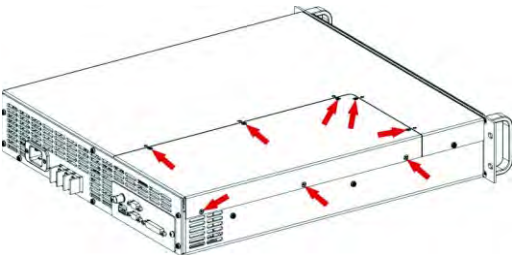

Figure 3.5 – 2105/7212/7224 Amplifier Access Panel Screw Locations
1. On each Follower amplifier, locate the Access Panel as shown in **Figure 3.5**. Make sure that all 8 screws are accessible. Remove the unit from its rack, if necessary.
2. Using a #2 Phillips screwdriver, remove the eight (8) screws located on the top and side of the amplifier.